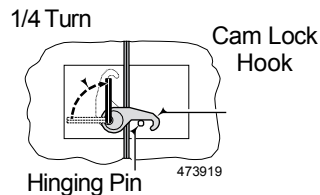

Figure 3. Engaged Position
2. Turn the cam lock clockwise 1/4 turn until the lock is engaged with the hinging pin. Do not tighten yet. See *Figure 3*.